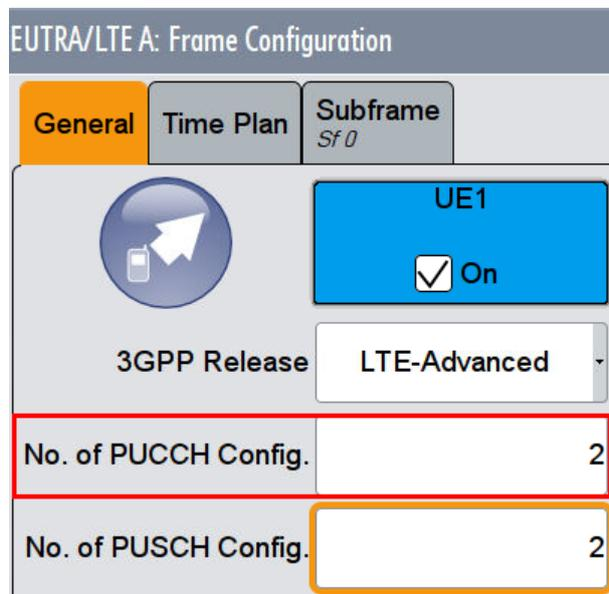

Fig. 3-92: Set two configurable PUCCH subframes
4. Set **No of PUCCH Config** to 2 (Fig. 3-92)